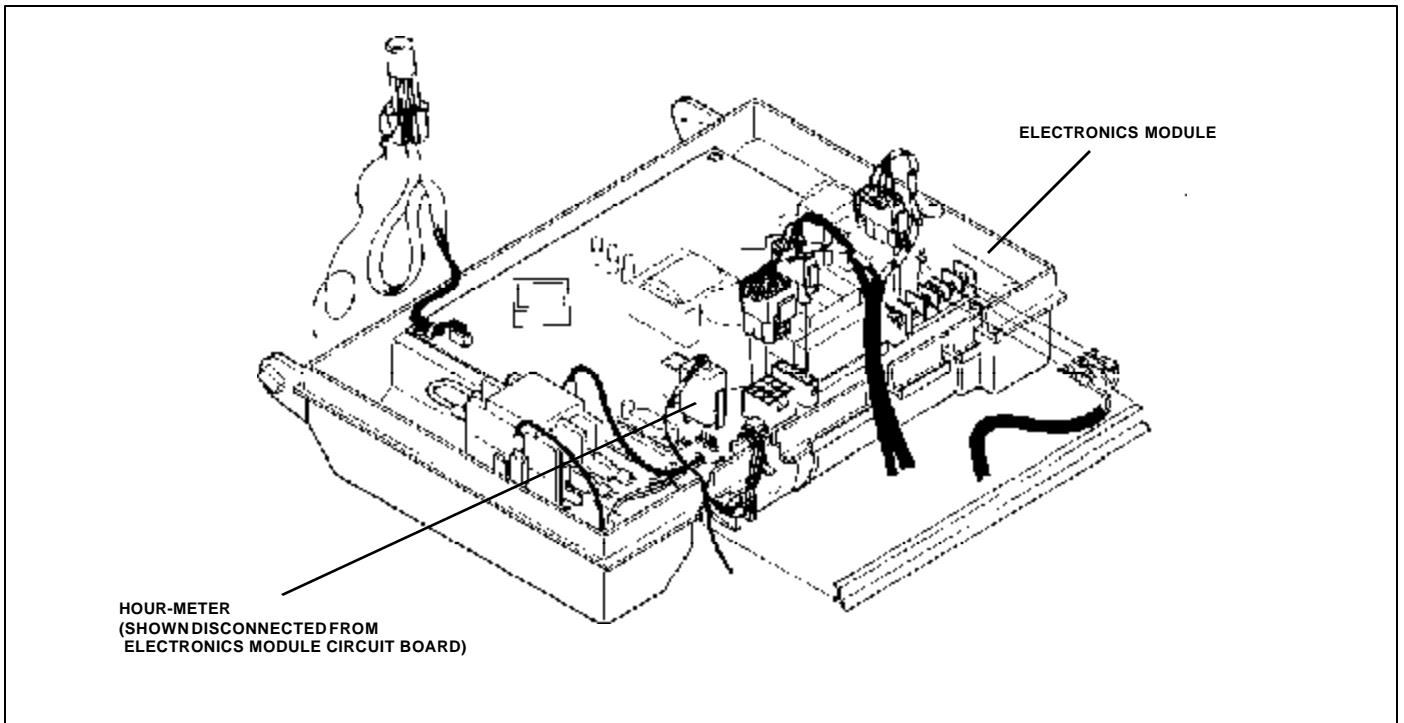

Figure 7 Hour-meter Location
- Remove the *hour-meter* from the *Electronics Module* circuit board (See Figure 7).